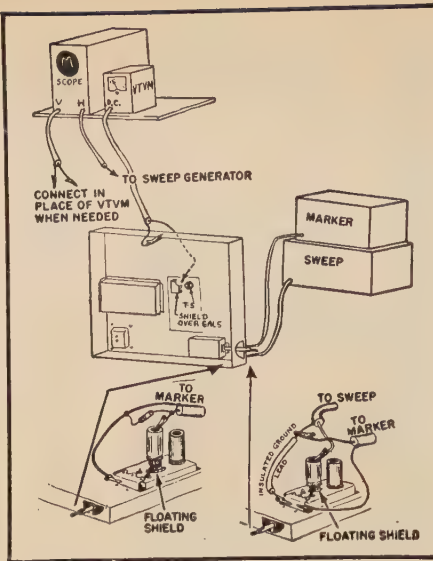

Fig. 8. Test equipment setup for video i.f. alignment outlined in Table 2.
c. Raise the shield of the 6J6 converter tube, V_{23} , slightly so that it does not make contact with the chassis. (See Fig. 8).
d. The output cable of the sweep and marker generators should be properly terminated in their characteristic impedance (usually 50 to 75 ohms). If this termination has not been built into the end of the cable, connect a resistor of the same value as this characteristic impedance across the output of each generator cable, as shown in Fig. 8.